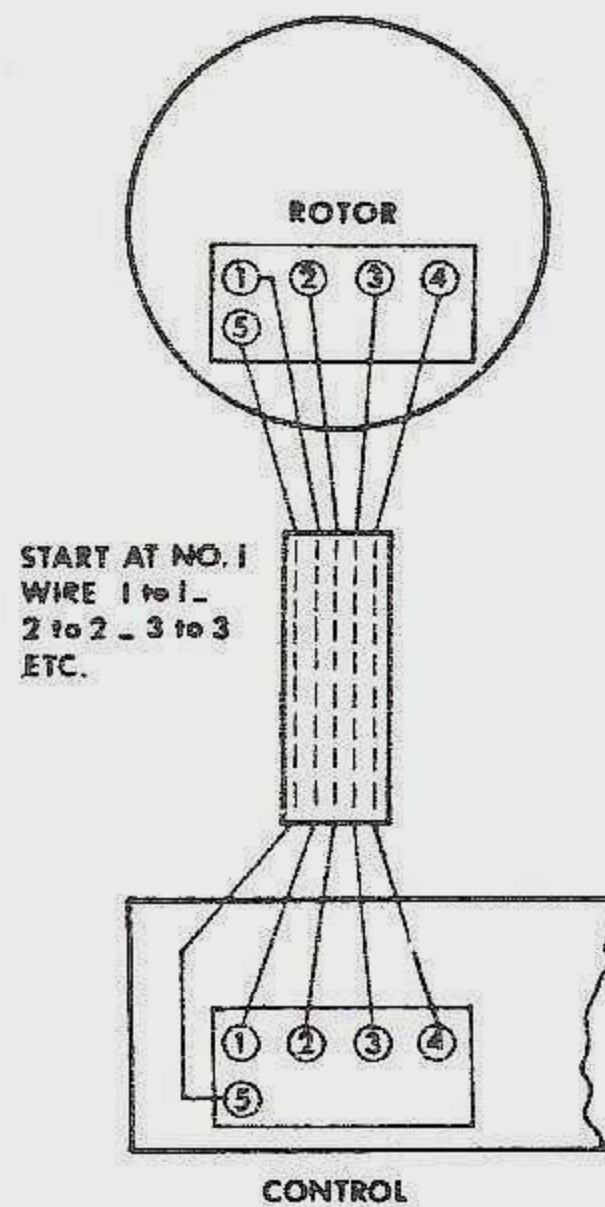

FIGURE 1
2. Measure out the amount of five-wire control cable required for your particular installation. At each end of this cable separate into individual wires approximately two inches from the end. Strip the insulation off each wire so that 1/4 to 3/8 inch of bare wire is exposed. Note: One wire may be silver colored and the other four copper colored. Use this silver colored wire for number one (1) lead. Twist the bared ends tightly and lightly tin these with solder to prevent unravelling of single strands. Do not tin up to insulation as this will hinder identification of the number one (1), silver colored wire.
3. It is recommended that the unit be "bench tested" prior to installation. Connect the rotor and control box in accordance with Figure 1 using the full length of cable prepared in step two (2). Care must be exercised to prevent short circuits between cable pairs.
GENERAL—The lower mast support casting is shipped unmounted; feed the cable through the rubber grommet in the terminal cover plate. Connect as shown in Figure 1. Then mount the lower mast support casting to the rotor base with four hex head bolts and lockwashers, tighten them securely.